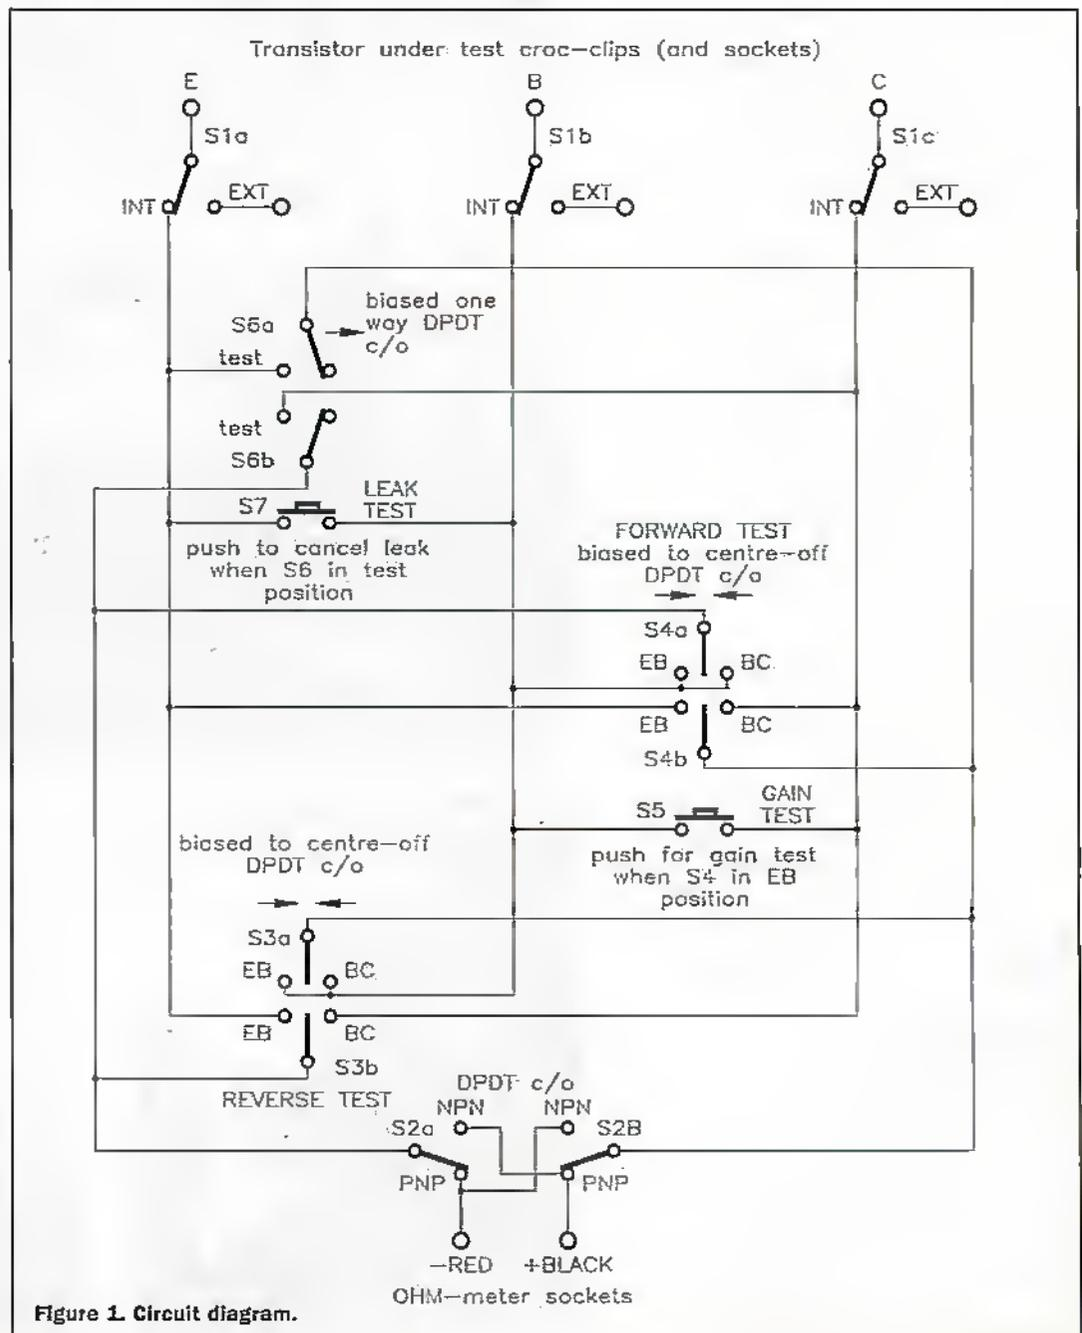

Figure 1. Circuit diagram.
**F**aced with a pile of 'surplus' mainly germanium transistors, I had to test them quickly to select those good enough for maintaining my vintage wireless collection. This tester was developed to exploit the ability of an analogue multimeter to test semiconductor junctions when the Ohms range is selected. Reverse leakage and forward current flow are qualitatively indicated so that you can separate working devices from defective ones. The tester is a simple switch box - the multimeter plugs in one end and the transistor at the other. Flicking the switches performs a comprehensive test of the transistor. See Figure 1, circuit diagram.